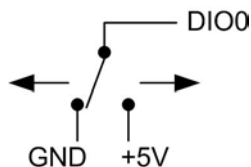

Figure 4. Schematic showing switch detection by digital channel DIO0
When you configure the digital bits for input, you can use the E-TC digital I/O terminals to detect the state of any TTL-level input. Refer to the schematic shown in Figure 4. If you set the switch to the +5V input, DIO0 reads *TRUE* (1). If you move the switch to GND, DIO0 reads *FALSE* (0).